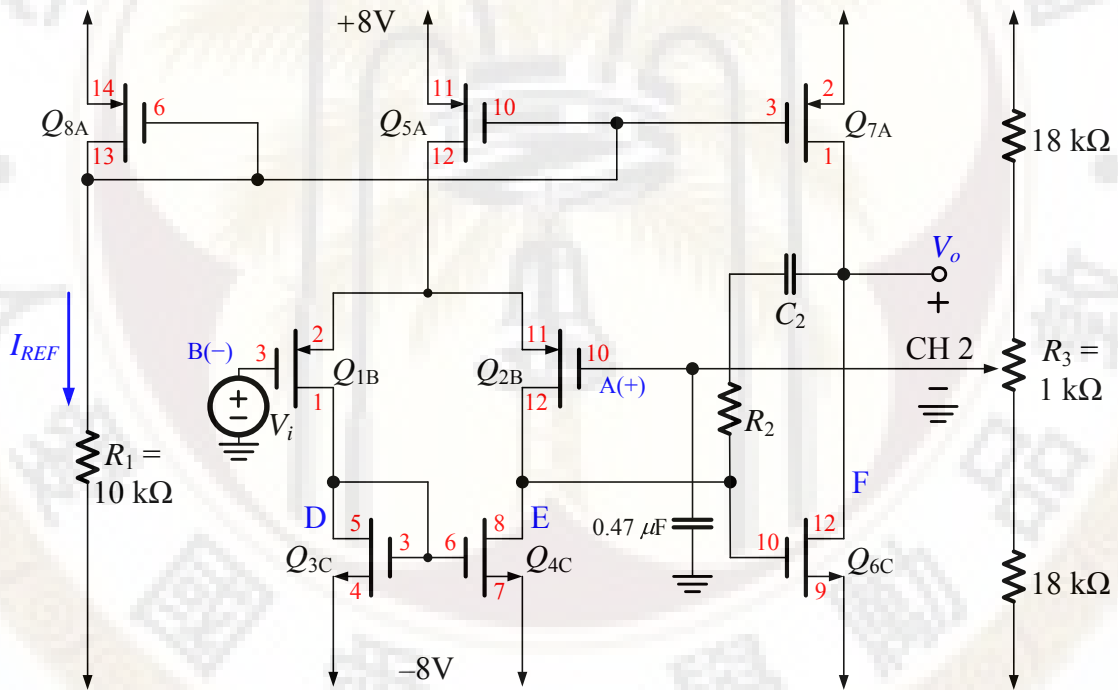

Fig. 5 Internal frequency compensation
- (1) Use $R_2 = 100 \text{ k}\Omega$, $C_2 = 10 \text{ pF}$ in to implement the compensation circuit in Fig. 5.
- (2) Repeat step (8) ~ (11) shown in step 3.
- (3) Record the voltage gain $A_{M.2} = \underline{\hspace{2cm}} \text{ V/V}$. (Reference vlaue, $|A_{M.2}| \approx |A_{M.1}|$.)
- (4) Record the dynamic range $V_i = \underline{\hspace{2cm}} \text{ V}$.
- (5) Record the frequency $f_{3dB.2} = \underline{\hspace{2cm}} \text{ Hz}$. (Reference, $f_{3dB.2} \approx f_{3dB.1}/2$)
(6) Change the frequency of input voltage source, and record the input and output voltage shown in oscilloscope to the following table.